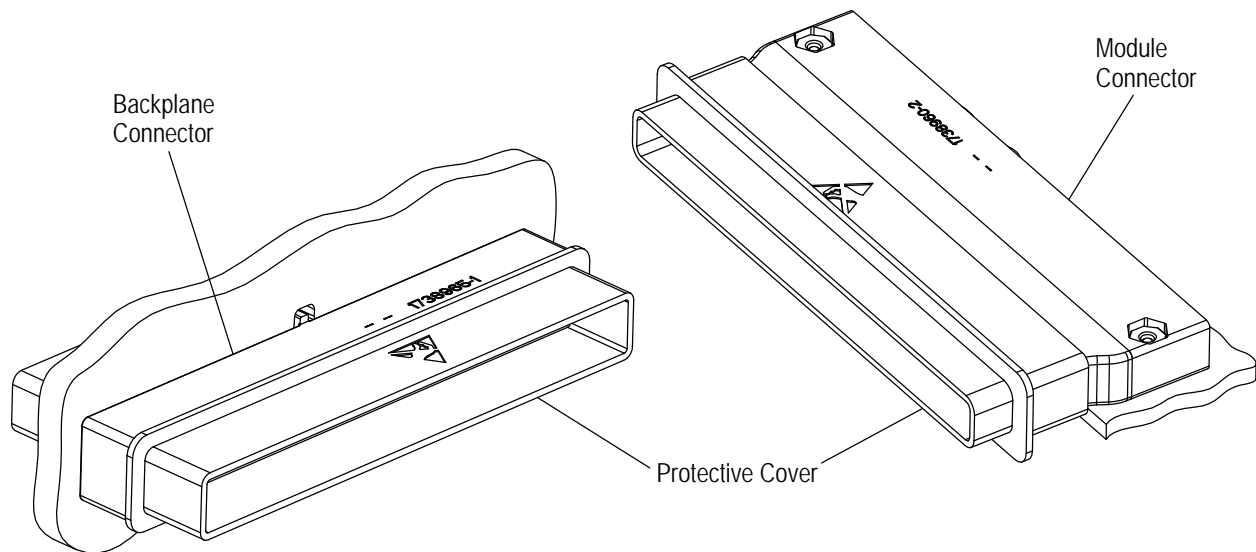

Figure 15
A. Protective Covers (Figure 15)